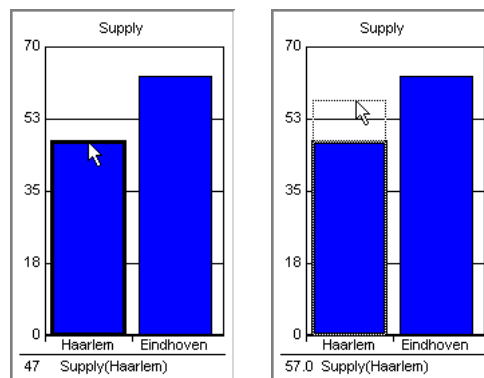

Figure 7.1: The dragging process for supply data illustrated
- ▶ drag the mouse upwards to increase the supply from 47 to 57 (see Figure 7.1).